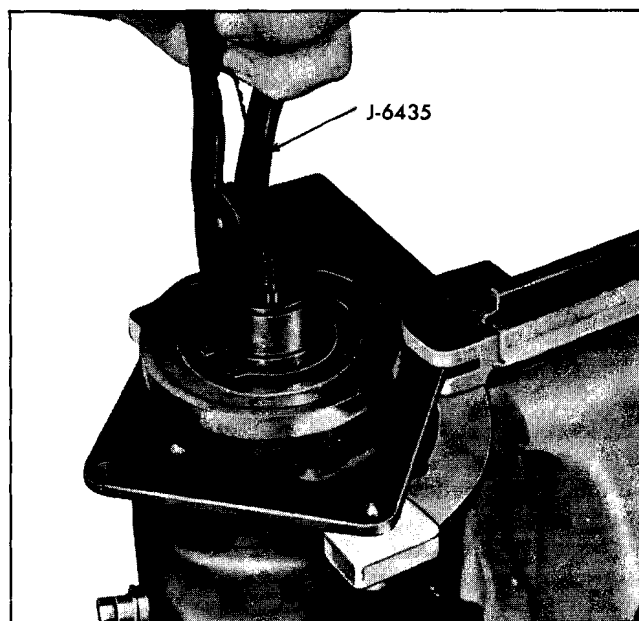

Fig. 1A-70 Removing Coil Housing Retainer Ring
5. Use J 6435 (No. 26 pliers) and remove coil housing retainer ring (Fig. 1A-70).